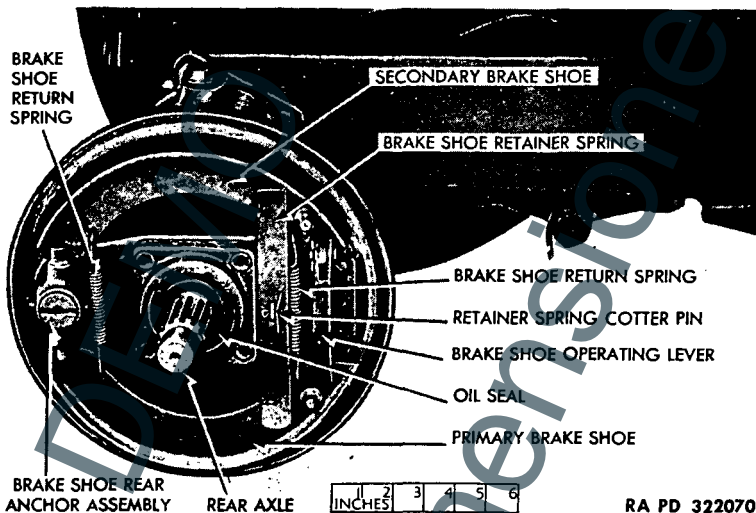

Figure 51—Brake Assembly Installed
(fig. 51). The shoes are secured to the backing plate by the rear anchor and by the retainer spring. The brake is adjusted at the anchors and at the cable which attaches to the operating lever. A toggle action at the lever expands the shoes against the brake drum as the cable is pulled.
d. **Installation.** Install the anchor pins into the backing plate boss, and place the brake shoes in the grooves on the pins. Install rear return spring. Install the brake operating lever. Connect the brake cable to the brake shoe operating lever, and place the shoes into the grooves of the lever. Install front return spring. Install shoe retainer spring and secure with cotter pin (fig. 51). Install brake drum assembly on front wheel, after bearings have been coated with grease, replace inner bearing, brake drum, outer bearing, race, flat washer and nut. Pull nut up until tight and back off $\frac{1}{4}$ turn, then check nut with lock washer and nut. Lock tightly without changing position of inside nut. Replace grease cap. On rear wheel, replace brake drum and secure tightly with nut and cotter pin. Install wheel. Adjust the brakes (step b above).